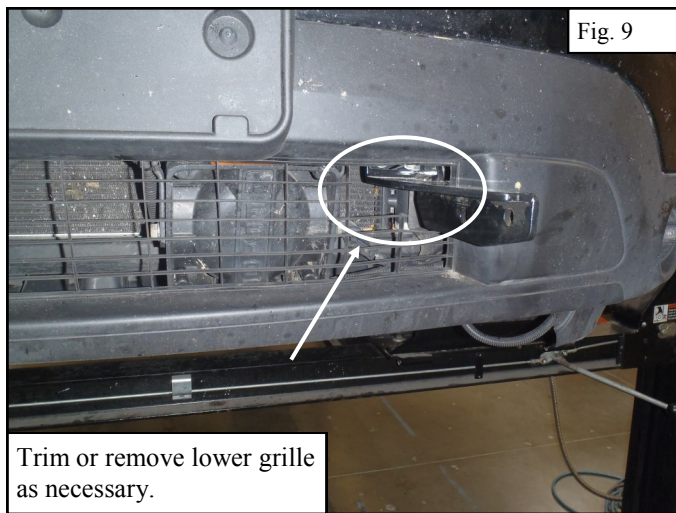

Fig. 9
8. Test fit the vehicle's front clip (the upper support brackets may need to be pushed slightly inboard in order to allow the clip to slip over them). There is a plastic crash channel inside the clip that will interfere with the brackets. Trim the crash channel as necessary in order to re-install the front clip (removing it from the front clip makes trimming easier). Additionally there is a lower grille in the clip that will interfere with the lower mounting brackets; either remove it or trim it as necessary. Refer to Figure 9.